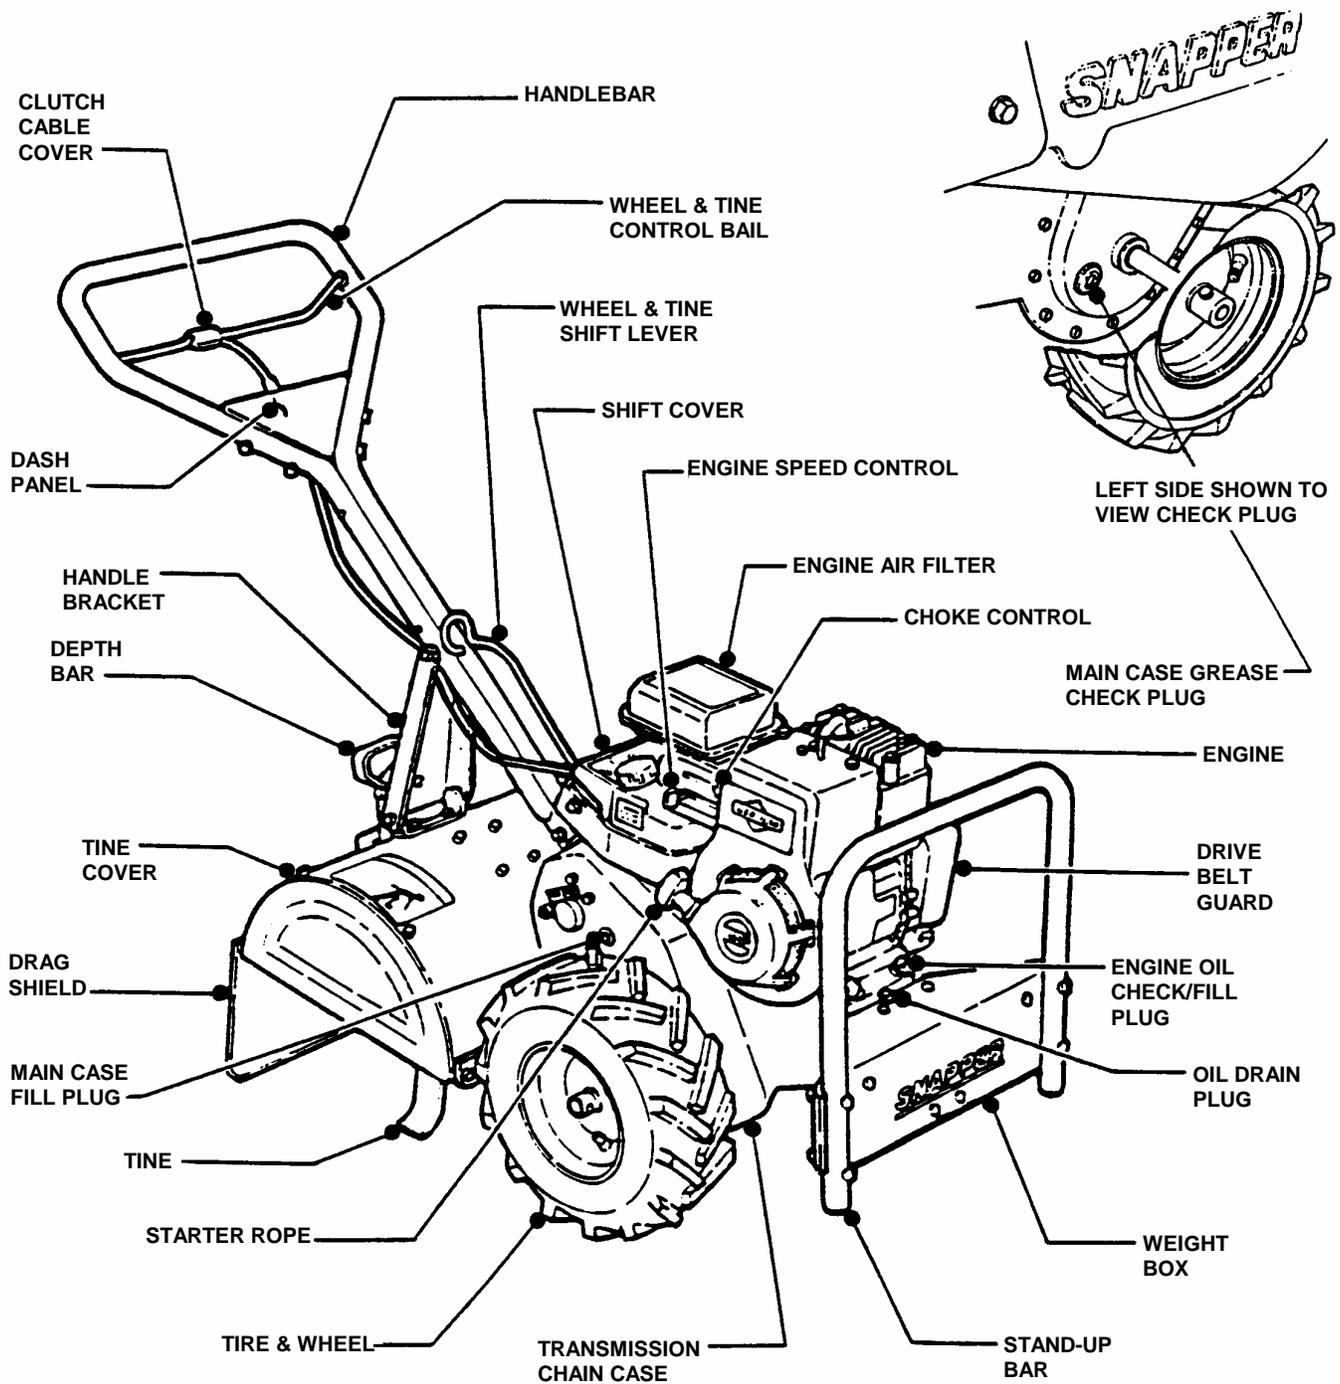

FIGURE 1
**1.1 INTRODUCTION:** This manual covers the recommended operating procedure and routine service requirements on SNAPPER Intermediate Rear Tine Tiller. It is recommended that all operators of this Tiller become thoroughly familiar with the controls and proper operation of the unit before operating. Specific details involving the engine are found in the separate engine owner's manual. Study these manuals before operating and keep both handy for future reference. Refer to Figure 1 above for location of controls and other essential components.